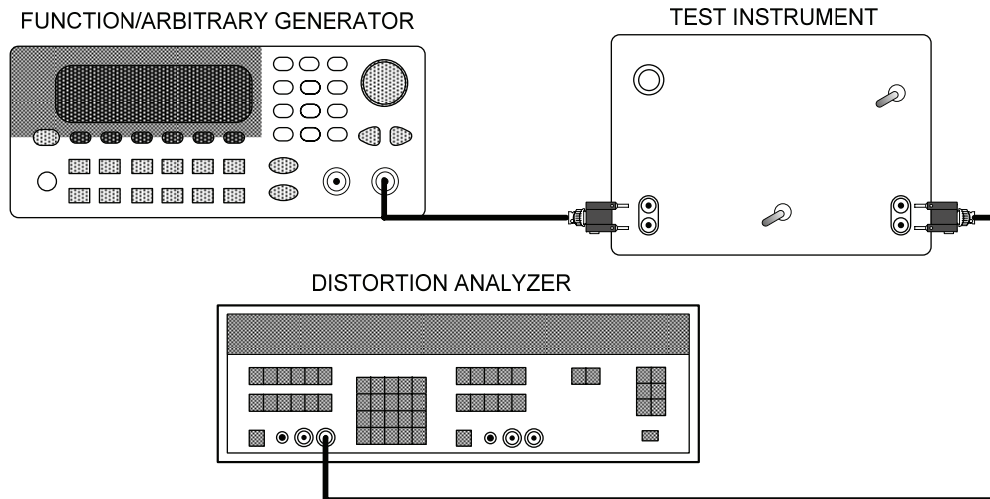

Figure 2. Distortion Check - equipment setup.
- (1) Connect equipment as shown in figure 2.
- (2) Adjust function/arbitrary generator frequency for 10 Hz and output for an 8 V indication on audio analyzer.
- (3) Measure and record distortion. Distortion will be less than 1 percent.